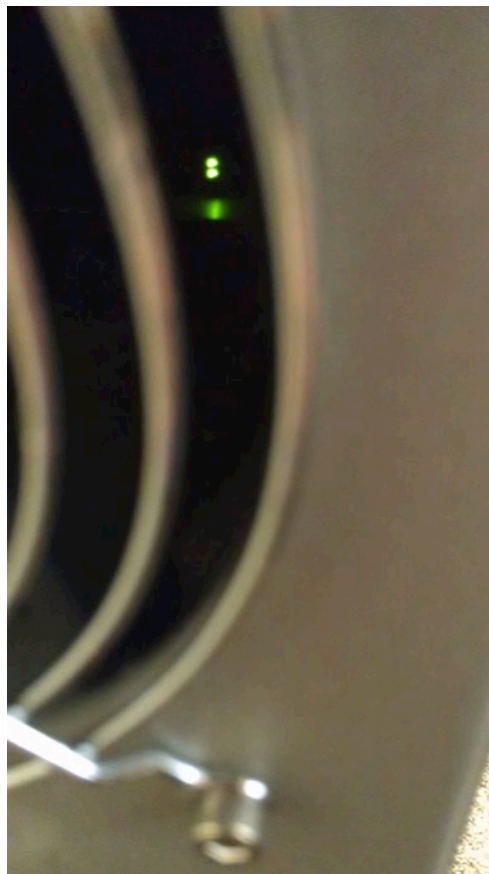

**Figure 3. How to toggle the system to the recovery mode.** The LED is green in the normal operation, and is red in the recovery mode.
- 1) While the system is on, toggle the system to the recovery mode (Fig. 3)